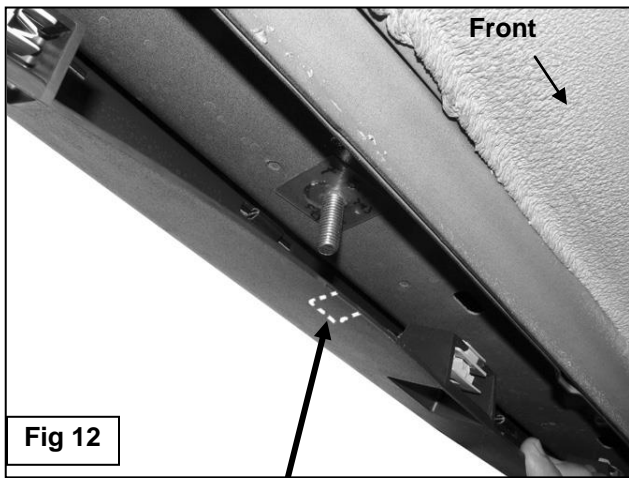

Fig 12
6. Select the driver side center Bracket, (Fig. 11A). Insert the Center Bracket into the approximate position, (Fig. 11B). Mark the Bracket location on the bottom edge of the plastic cover, (Fig. 12). Cut a small slot in the bottom edge of the cover to clear the Bracket. Bolt the Bracket to the Bolt Plate with (1) 10mm Flat Washer, (1) 10mm Lock Washer and (1) 10mm Hex Nut, (Fig. 13). Leave hardware loose.